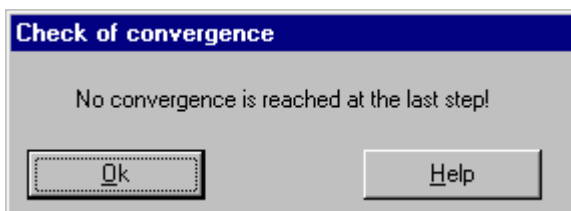
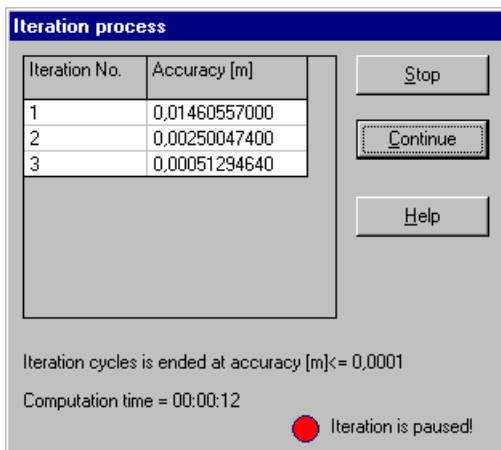

Figure 3-41 "Check of convergence" message box
Figure 3-42 "Iteration process" list box
An accuracy number controls the convergence progress of the solution. The solution is considered convergent if the accuracy number of the step $i + 1$ is less than that of the previous step i . The maximum difference between the soil settlement and the slab deflection in [m] is considered as an accuracy number. A message box appears during the iteration process when the convergence becomes no longer convergent for example (Figure 3-41),
- Click "OK" button in the "Check of convergence" message box in Figure 3-41. The "Iteration process" list box in Figure 3-42 appears. Note that the "Pause" button changes to "Continue" button